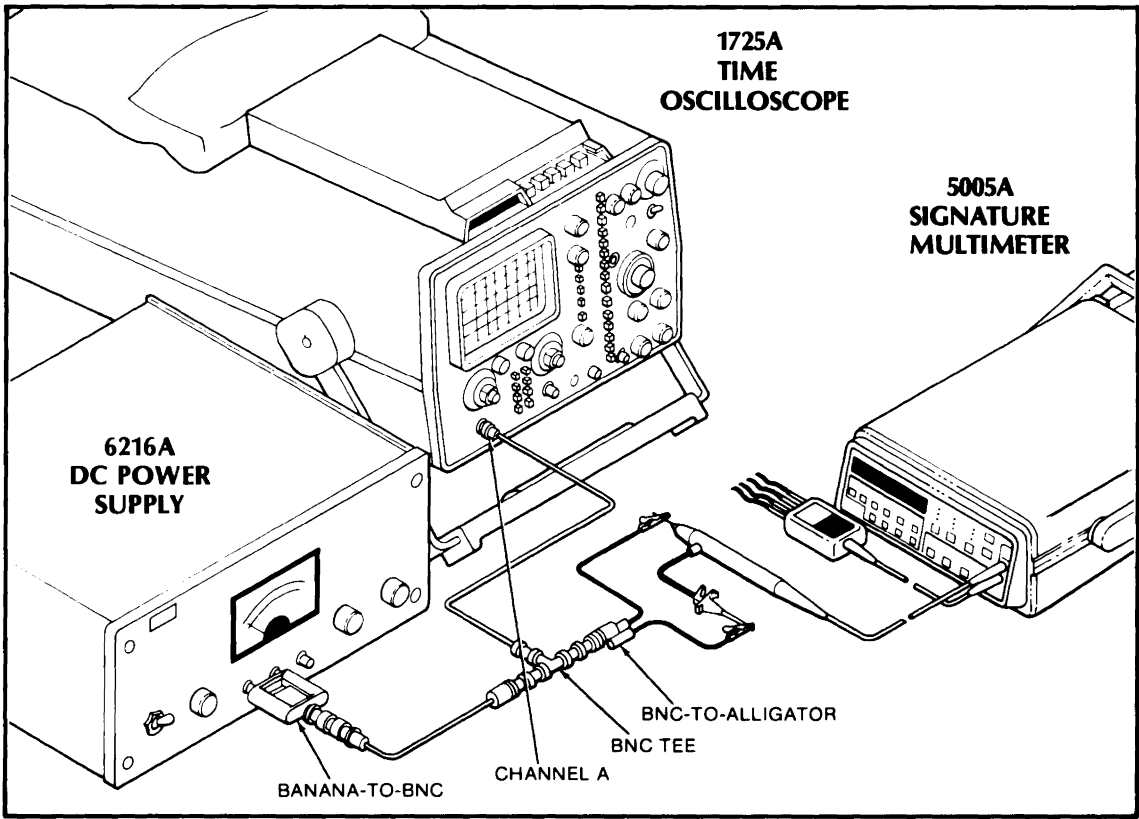

Figure 4-12. Peak Voltage Reference Test Setup
1. Connect the equipment as shown in Figure 4-12.